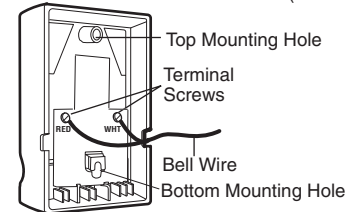

Figure 4 REMOVE COVER
- Remove cover by gently prying on a side corner near the top of the cover with a small flat head screwdriver (Figure 4). Fasten with 6ABx1-1/4" self-tapping screws (drywall installation) or 6-32x1" machine screws (into gang box) as follows: